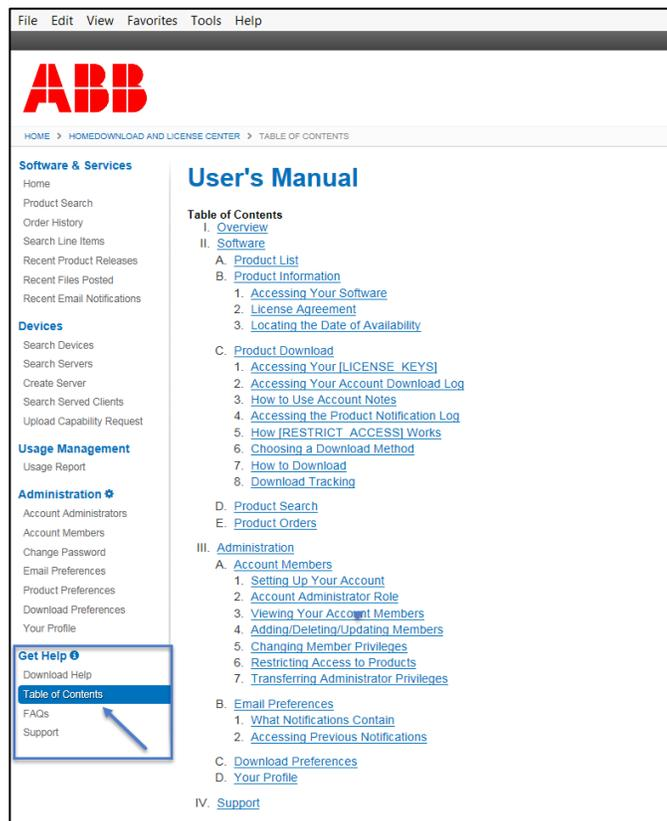

Figure 58: Online help for customer portal access and usage
- 2) Under Get Help, in the navigation pane on the left (Figure 58), click **Table of Contents** to access all topics.